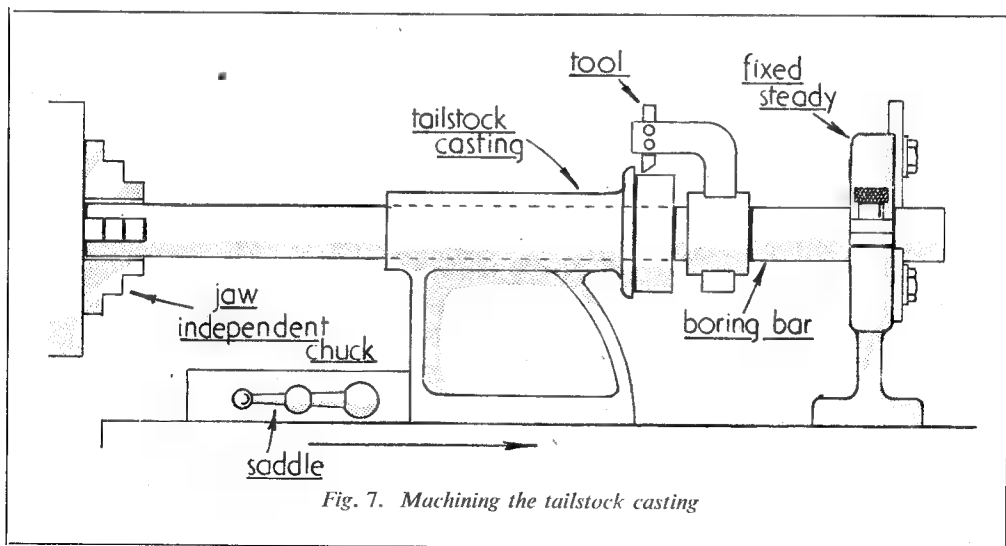

Fig. 7. Machining the tailstock casting
Examination of the detail drawings (Fig. 9) to appear in the next article, will show that there is little difficulty in making the various parts. The machining of the seating for the clamp (1) on the tailstock casting, on the other hand, does pose a small problem, particularly when the machining must be carried out on the lathe to which the tailstock belongs. In this instance a special boring bar must be made and inserted through the bore of the casting, as illustrated in Fig. 7. The boring bar is mounted in the four-jaw independent chuck and is set to run truly; the other end of the bar is supported by a steady. The work is fed towards the tool by means of the lathe saddle. In order to do this the saddle is first brought into contact with the casting; the saddle automatic traverse is then engaged and the casting is thus pushed along the bed of the lathe towards the tool mounted in the boring bar. In carrying out this operation it is advisable to strap the saddle and the tailstock casting together, though this procedure is not essential. The depth of cut should not be too great. It is better to carry out the machining in easy stages, taking light cuts.